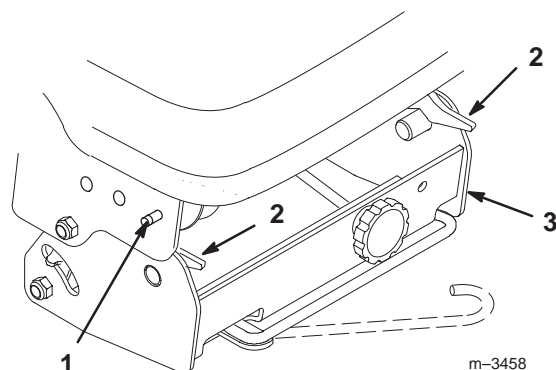

Figure 26
14. If you want to remove the pulley box, push the latch release buttons on the front Attach-A-Matic™ (Fig. 26) and raise the latch levers to open the latches holding the pulley box. Remove the pulley box.